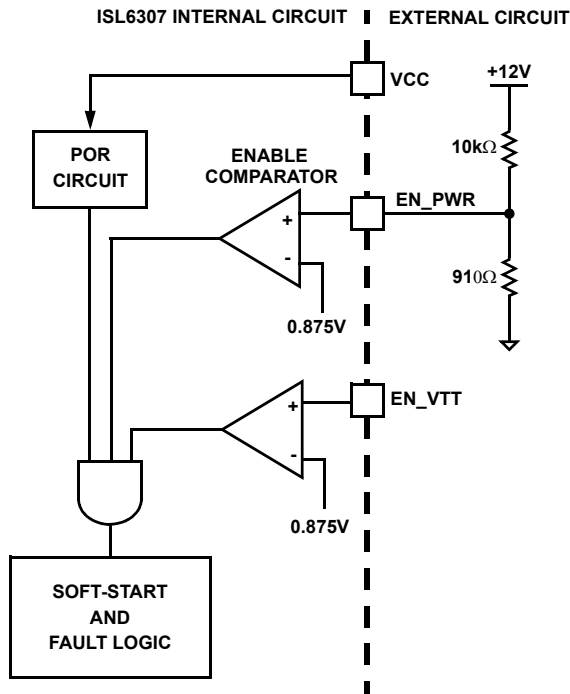

FIGURE 10. POWER SEQUENCING USING THRESHOLD-SENSITIVE ENABLE (EN) FUNCTION
2. The ISL6307 features an enable input (EN\_PWR) for power sequencing between the controller bias voltage and another voltage rail. The enable comparator holds the ISL6307 in shutdown until the voltage at EN\_PWR rises above 0.875V. The enable comparator has about 130mV of hysteresis to prevent bounce. It is important that the driver ICs reach their POR level before the ISL6307 becomes enabled. The schematic in Figure 10 demonstrates sequencing the ISL6307 with the ISL66xx family of Intersil MOSFET drivers, which require 12V bias.